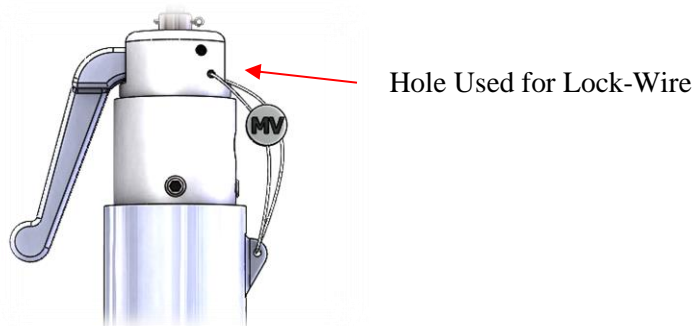

Figure 28: Lift Lever Orientation and Lock Wire
6. Attach the seal wire through the small unused hole of the lift lever cap as shown in Figure 28.